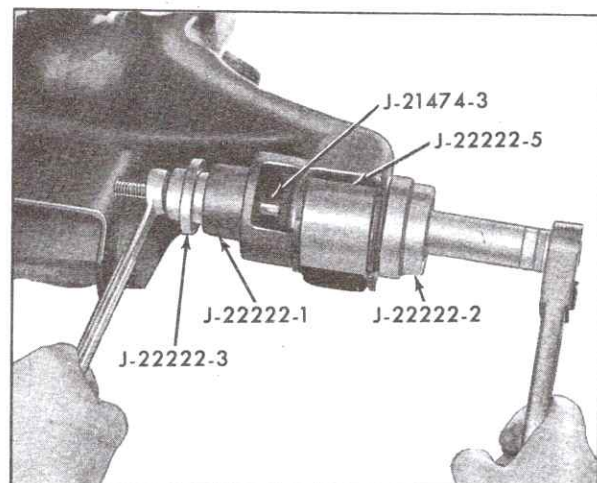

Fig. 3-38 Removing Lower Control Arm Bushings
2. Install tools as shown in Fig. 3-38, and press bushings out of control arm.